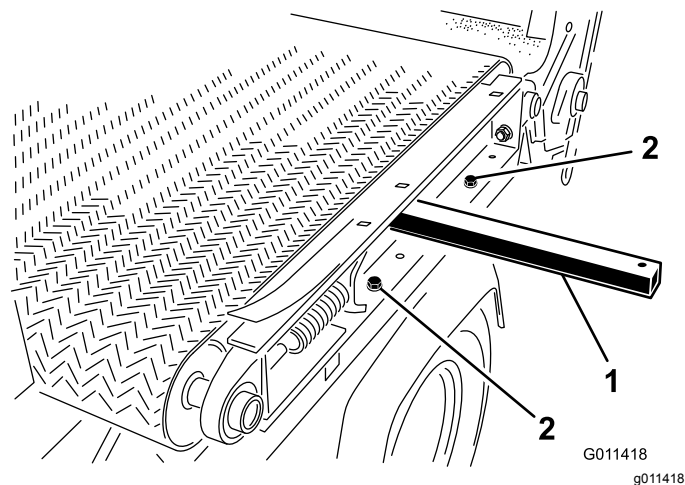

Figure 35
7. Remove 2 cap screws, washers, and nuts on the left side of the machine, securing the slider bed to the frame (Figure 35).
- A. Insert a lift bar into hole on left side of machine and raise lift bar to tip slider bed (Figure 35).